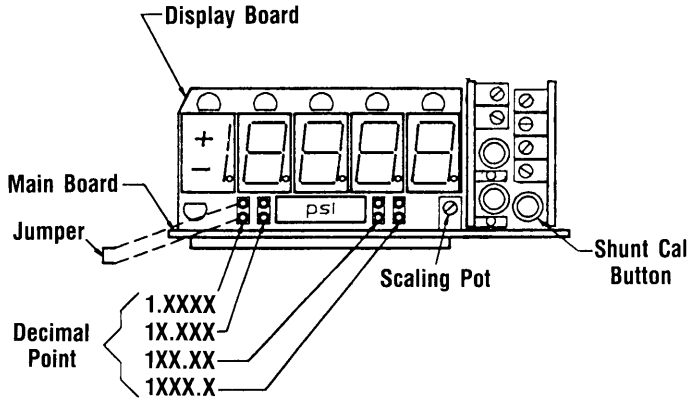

Figure 3—Decimal Points
1. Depress the SHUNT CALIBRATION button (see figure 3).
3. Place the jumper in the proper place on the Display Board to locate the decimal point as illustrated in Figure 3.